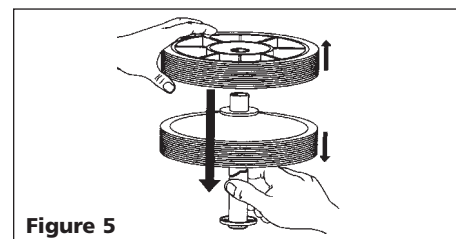

Figure 5
4. Put both wheels on axle, solid sides together (Figure 5).